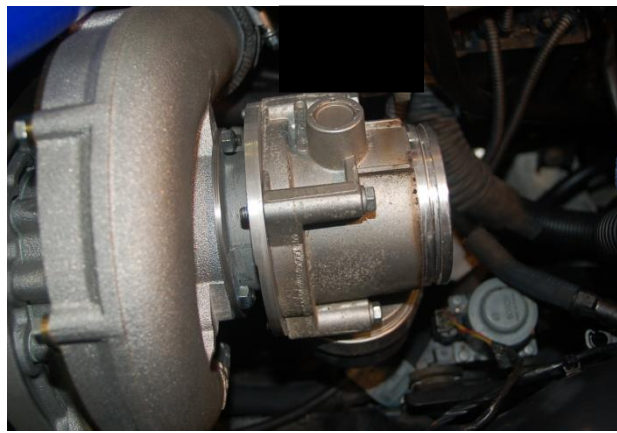

Figure 29
3. Install the throttlebody on the compressor flange (Figure 29). Pay attention to a proper seating of the O-ring on the intake side of the throttlebody. Grease the O-ring very good!